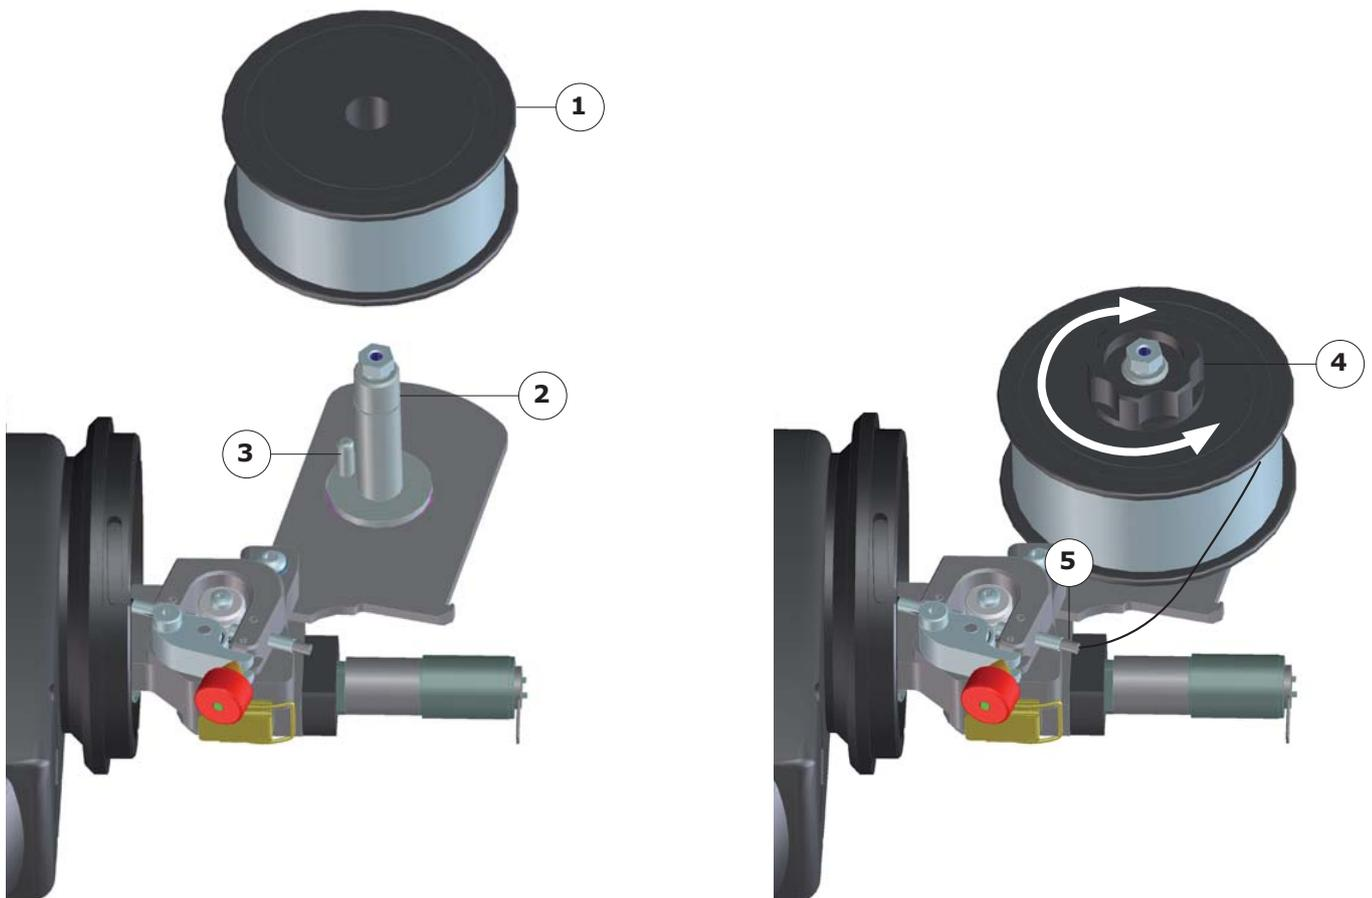

Fig.5.16 - Inserting a wire spool on the rotating wire feeder
- Place the wire spool (Fig. 5.16 - 1) on the holder (Fig. 5.16 - 2), respecting the indexing (Fig.5.16 - 3).
- Tighten the clamping knob (Fig.5.16 - 4).
- Insert the wire into the wire feeder input sheath (Fig.5.16 - 5).